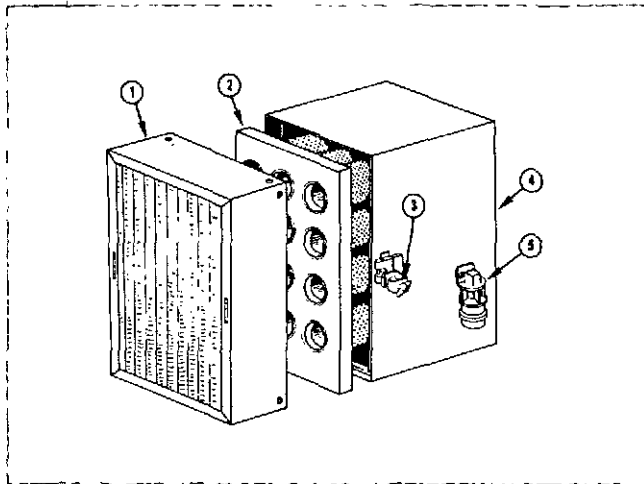

Fig. 5-19, V11009. Cartridge — type air cleaner — single stage
1. Loosen wingnuts (3, Fig. 5-19) on air cleaner housing and remove moisture eliminator (1) and rain guard, if used.
2. To remove dirty Pamic cartridge (2), insert fingers in cartridge opening using a "bowling-ball grip" and pull
2. To install a new cartridge, hold cartridge (2, Fig. 5-19) in same manner as when removing from housing (4). Insert clean cartridge into housing; avoid hitting cartridge tubes against sealing flange on edges of air cleaner housing.
4. Position moisture eliminator (1) to air cleaner housing (4) and secure wingnuts (3).